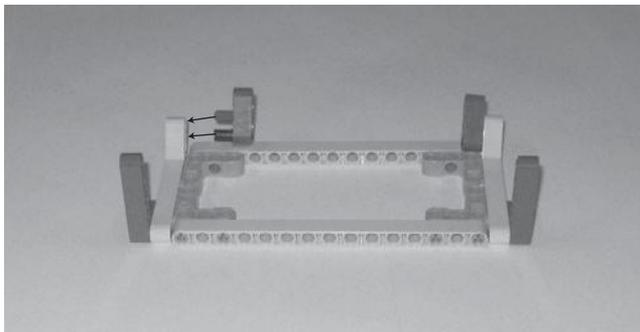

Figure 9.17
Step 3—Connect a 3M straight beam to the left side of the rear chassis using a connector peg with friction and connector peg with friction and cross axle, as shown in Figure 9.17. Add a second 3M straight beam to the right side of the rear chassis using a second connector peg with friction and connector peg with friction and cross axle (not shown in Figure 9.17).